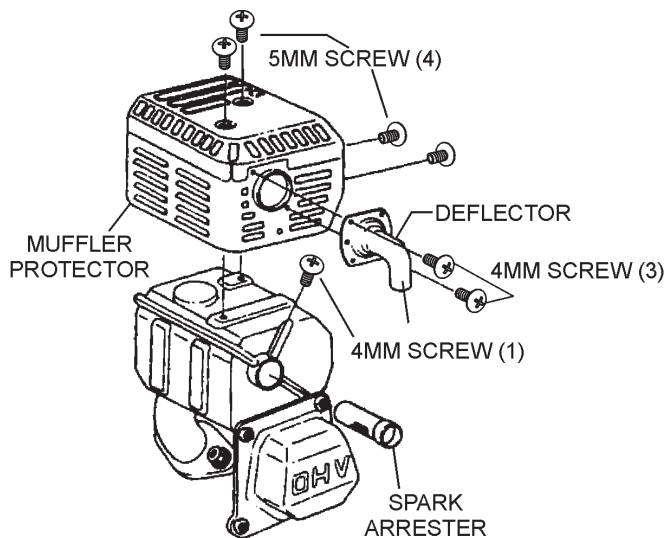

Figure 31. Spark Arrester Removal
1. Remove the 4 mm screw (3) from the exhaust deflector, then remove the deflector. See Figure 31.
2. Remove the 5 mm screw (4) from the muffler protector, then remove the muffler protector.